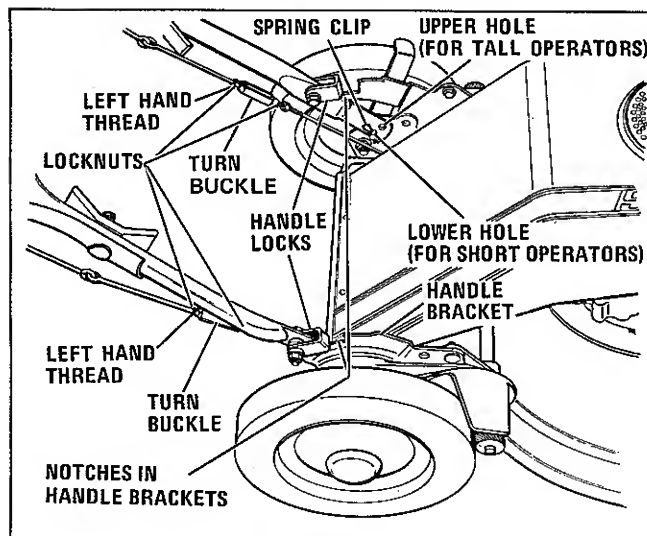

Figure 5
1. Remove the two spring clips holding the handle to the handle bracket. See Fig. 5.
3. Raise the front end of the handle locks and rotate the handle forward until the rear edge of the locks are in line with the notches in the handle bracket. See Fig. 5.
7. Install the spring clips. See Fig. 5.
Remember, for tall operators use the upper holes and for shorter operators, use the lower holes. See Fig. 5.
2. Loosen the locknuts on the turn-buckle on the side of the mower, with the slipping roller. Note that the locknut on the top of the turn-buckle has a left hand thread and must be rotated clockwise (viewed from the top) to loosen it. See Fig. 5.